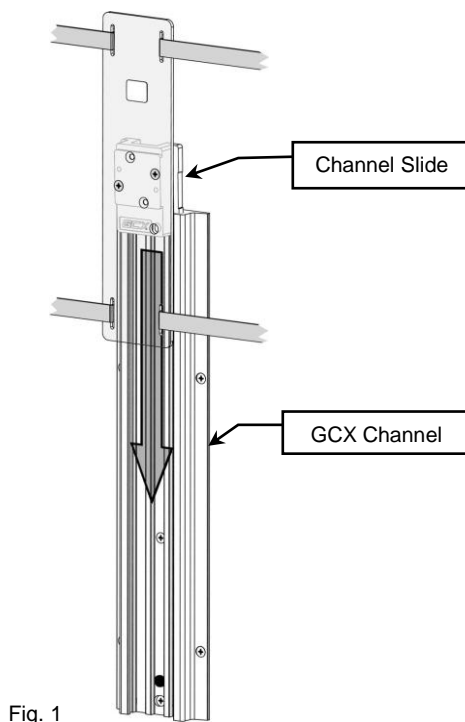

Fig. 1
1. Guide the Channel Slide (rear of Mount) into top of GCX Channel and lower to desired height (Fig. 1).